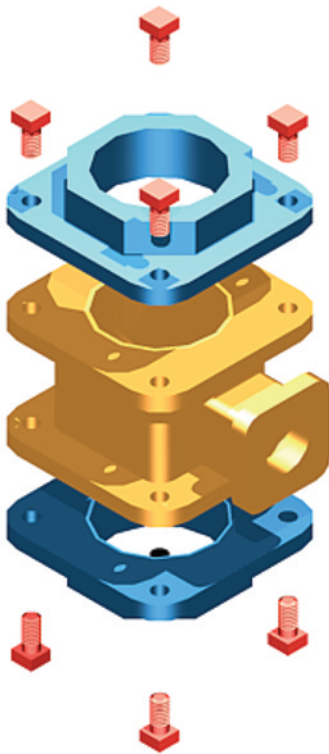

Fig. 17.11 Second example – UCS
18. Finally move all the parts away from each other to form an exploded view of the assembly (Fig. 17.11).